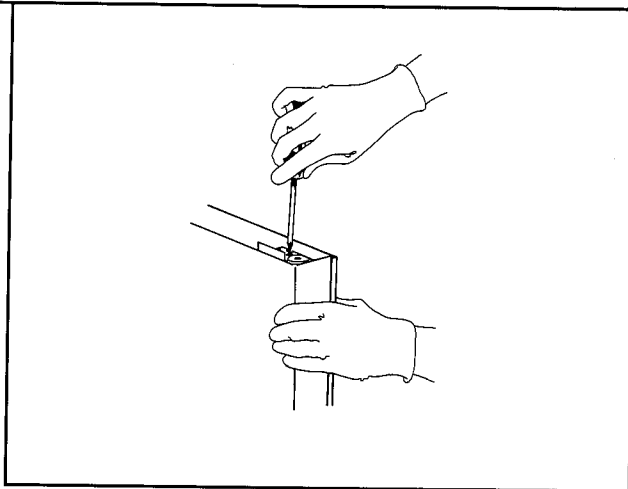

Figure 48
c. Repeat this process on freezer door. See Figures 48 and 49.